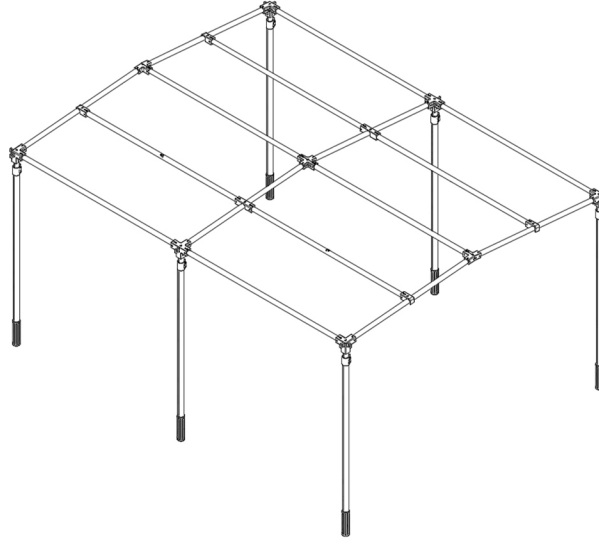

Figure 1- Rendering
- Figure 1 shows the completed rack effect.